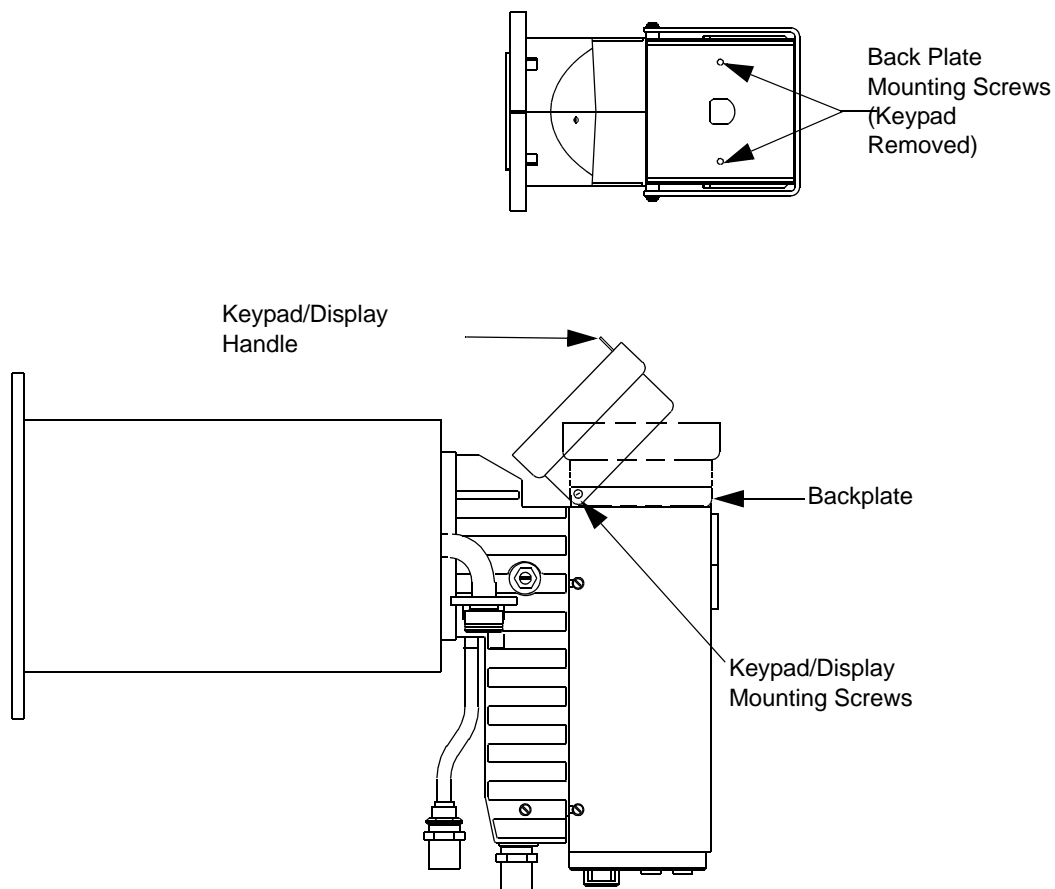

Figure 2-4: Keypad/Display Mounting Position C
Refer to Figure 2-4 and the following procedure to install the keypad/display in position C.
3. Remount the keypad/display as shown in Figure 2-4 using the 2 screws, washers, and nuts removed in step 1.